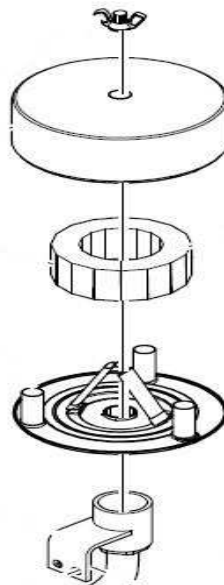

Figure 2: Old filter assembly
4. Remove and discard the wing nut and paper filter and top hat. Figure 2.